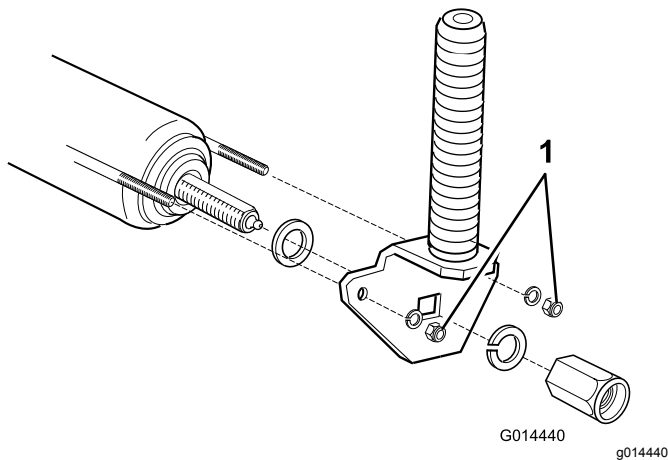

Figure 69
2. Tighten the nuts 4 full turns to correctly tension the wire (Figure 69).